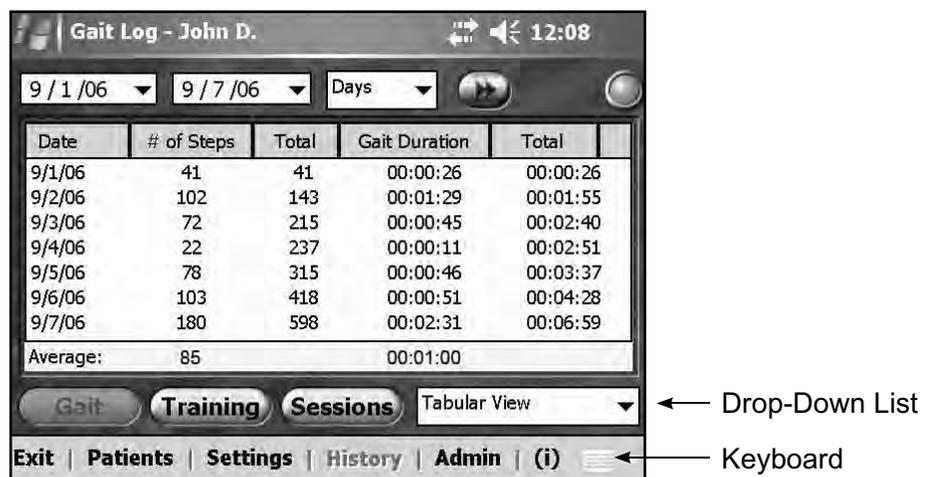

Figure 6-5: Data entry options: drop-down list and on-screen keyboard.
Use the on-screen keyboard to enter characters in a field that requires alphanumeric input. The keyboard appears collapsed at the bottom right of most screens. To enlarge or reduce the keyboard, touch the keyboard with the stylus. To enter data, select each character using the stylus. See Figure 6-5.
- Press the down arrow to display the values in a drop-down list. Use the stylus to select a value. See Figure 6-5.